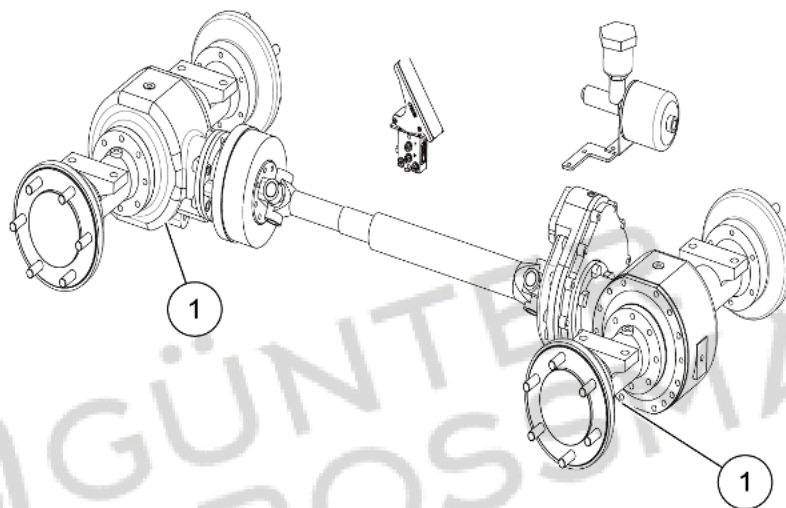

Figure 6-31 Oil port position when draining oil
Step 1: Drive the loader onto a flat field, slowly move the loader to let the oil plug (1) at the lowest position, as shown in Figure 6-31: